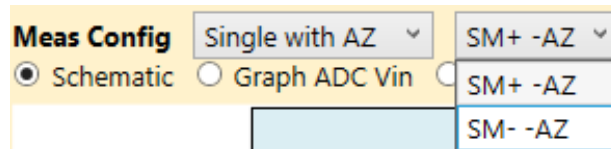

Figure 45. Meas Config: Single AZ
- Single with AZ: single measurement with AZ (Figure 45)